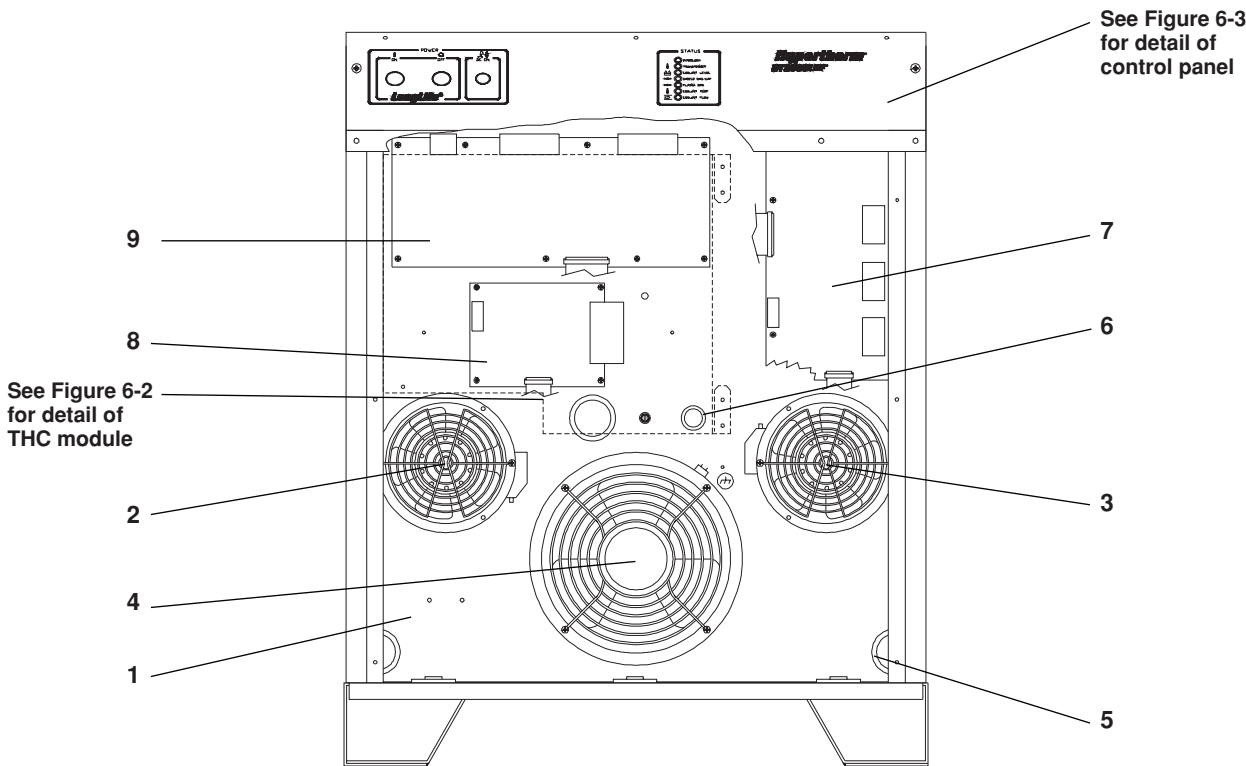

Figure 6-1 HT2000LHF Power Supply – Front Panel
* Items not shown in Figure 6-1